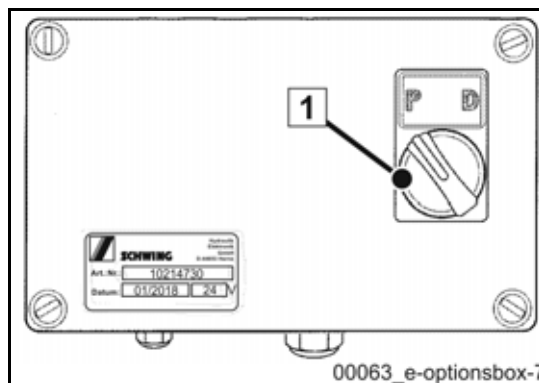

Fig. 268 Switching on distribution manual transmission gear (VSG)
- Wait for approx. 5 seconds before flipping the switch from "P" (pump) to "D" (drive) **(Fig. 268)**.